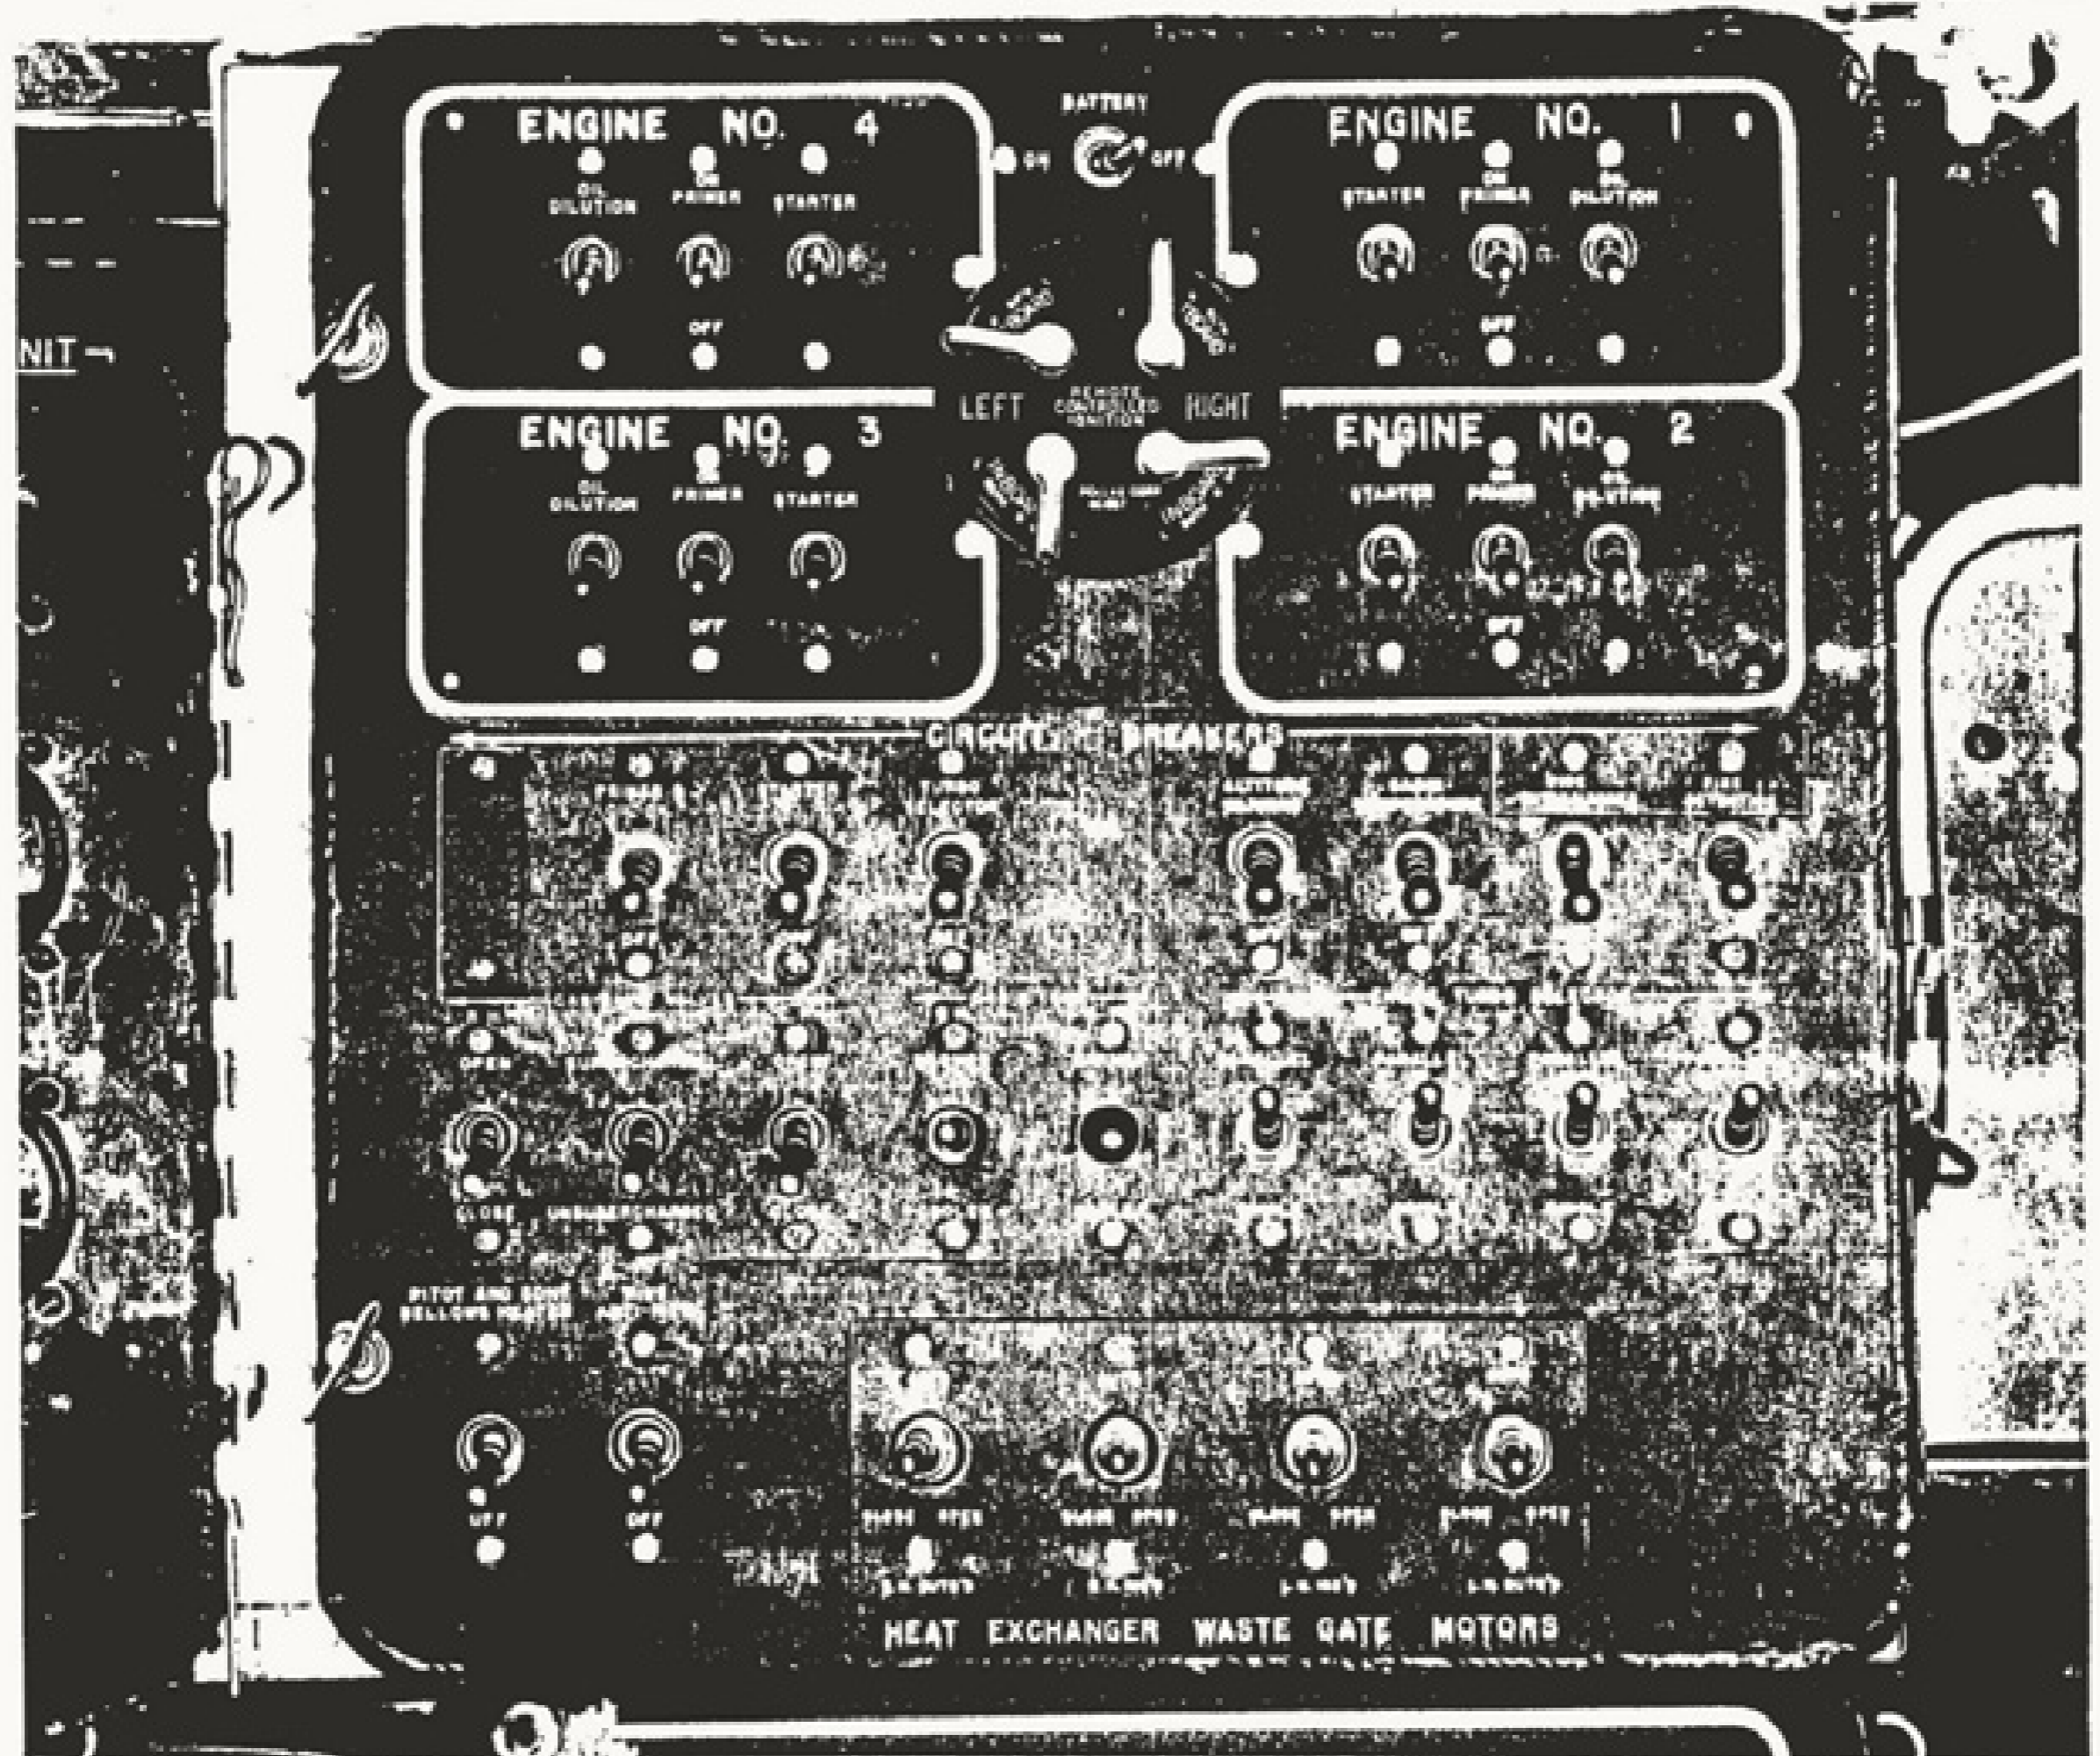

Figure 17. Engineer's Upper Electrical Control Panel
g. ENGINE TURBO SELECTOR SWITCHES.- These four switches are located on the engineer's upper control panel. (See figure 17.) In the "PARALLEL" position all turbos operate and in the "SINGLE" position one of each pair of turbos is rendered inoperative. The "SINGLE" position is used to correct turbo pulsation or collapse. Normally the switches are kept in the "PARALLEL" position.
m. HEAT EXCHANGER WASTE GATE MOTOR SWITCHES. (See figure 17.)- These switches are used to control the temperatures of the exhaust gases to the turbosuperchargers. Normally for ground operations the switches are held to the "OPEN" position to open the waste gates and in flight they are placed on "AUTOMATIC." Manual control is accomplished by holding the switches to the "OPEN" or "CLOSE" position momentarily and then returning the switches to the center (off) position. The center position being off, the waste gates will remain in the po-
n. OIL DILUTION SWITCHES.- These switches, figure 17, have two positions; "OFF" and momentary "ON." In the "ON" position diluted oil is diverted into the oil tank hoppers rather than throughout the oil tanks. In the "OFF" position engine oil is automatically diverted directly to the hopper as required by the oil temperature.
o. **PRIMER SWITCHES.**- A primer switch, spring loaded to the "OFF" position, is provided for each engine. (See figure 17.)
p. **IGNITION SWITCHES.**- Individual ignition switches with provisions for checking both the left and right hand magnetos of each engine are located on the engineer's upper control panel. (See figure 17.) An emergency switch is installed on the pilot's pedestal that will cut the ignition for all four engines when it is pulled out. (See figure 7.)
q. **STARTER SWITCHES.**- Switches for direct cranking starters are located on the engineer's upper control panel, figure 17. The switches are spring loaded to the "OFF" position.